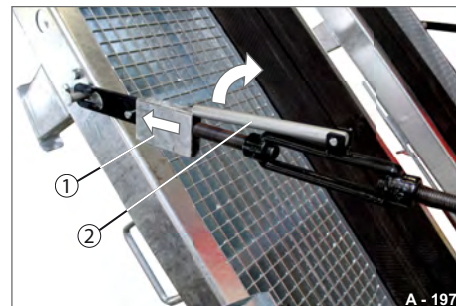

Fig. 50 Unlocking the securing tensioner
► Slide the rectangular securing element (Fig. 50/1) upwards.
► Swing the lever (Fig. 50/2) out.